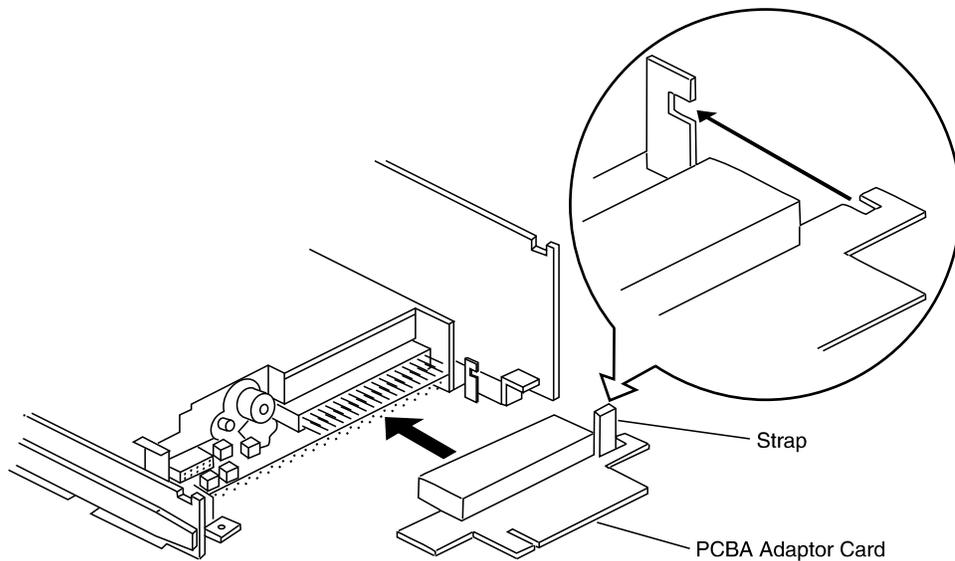

Figure B-8. Floppy Disk Drive Unit PCBA 5 Inch Adapter Card
- Place the FDD assembly on a work bench equipped with an ESD protection pad and carefully remove the PCBA 5" Adapter board illustrated in Figure B-8, making sure not to bend or twist the connector pins. Remove the mini power cord unless already performed in an earlier step.
3. Hold the new FDD by the metal sides and carefully re-assemble it into the 5.25" mounting hardware and bezel. Re-secure the FDD using the four 3 millimeter Phillips head screws removed in step 14 of "Removing The Floppy Disk Drive Unit". Re-assemble the PCBA adapter board, being careful to re-align the tabs shown in Figure B-8.